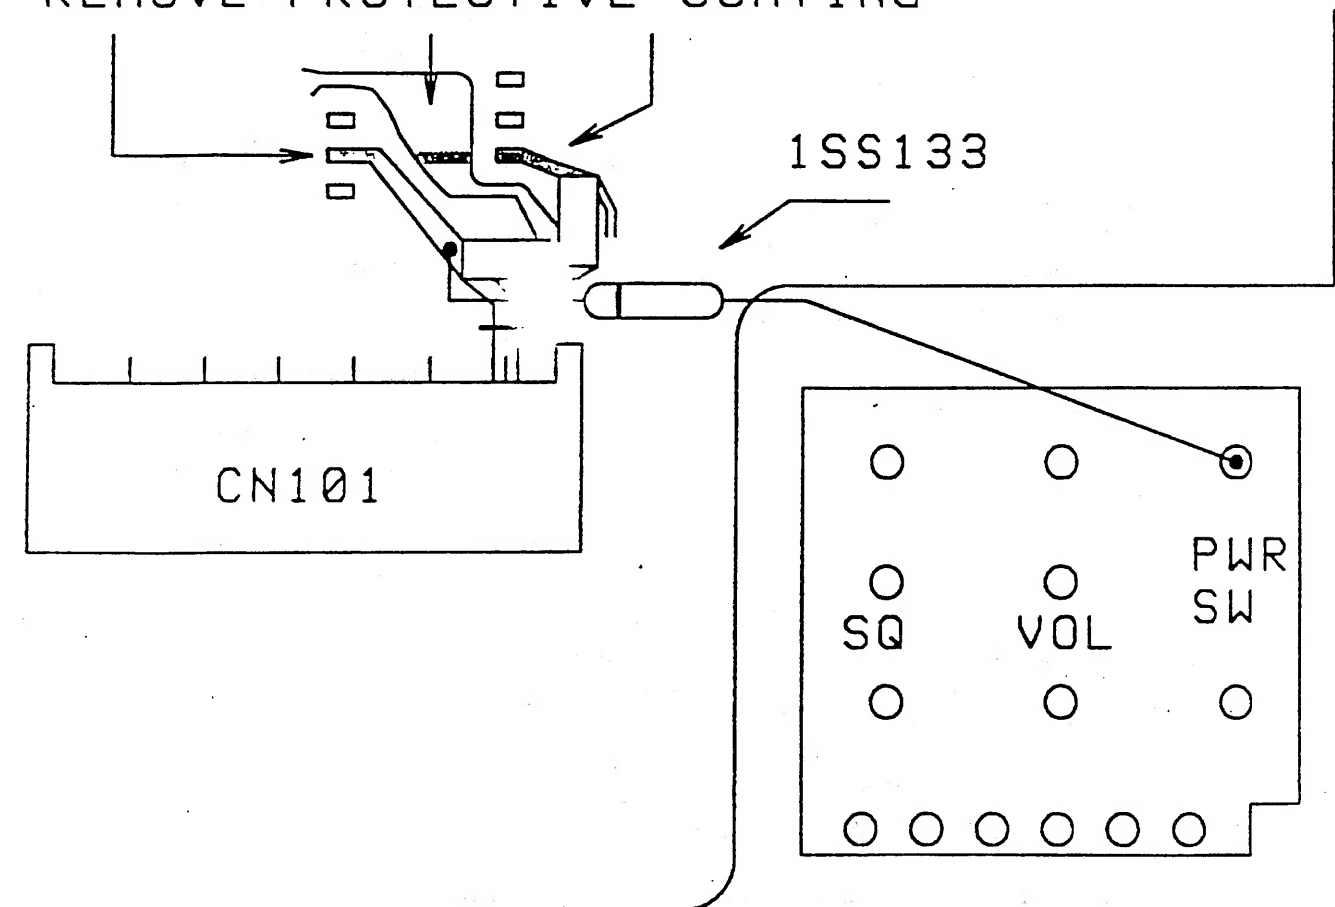

FIGURE 7
17. Prepare the 1SS133 diode for installation. The cathode lead will be cut and bent 90°. The diode must lay flat on the board and the cathode lead cannot touch the cut in the foil. Once the diode leads are prepared, solder the diode in place. Figure 7
19. The 6V AVR will be mounted in place where IC102 was located. The board must first be prepared for the installation. Remove the protective coating from the foils as shown in Figure 7. These are the foils that were connected to pins 2 and 7 of IC102 and the ground foil that runs under the device.